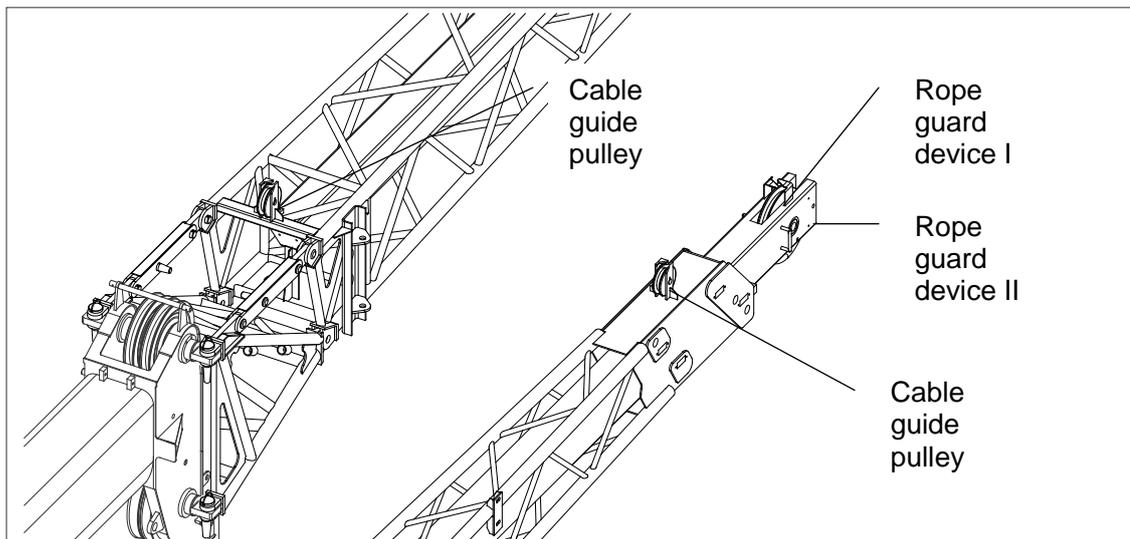

Figure 05 – 12
- g) For details, please refer to Figure 05 – 12.